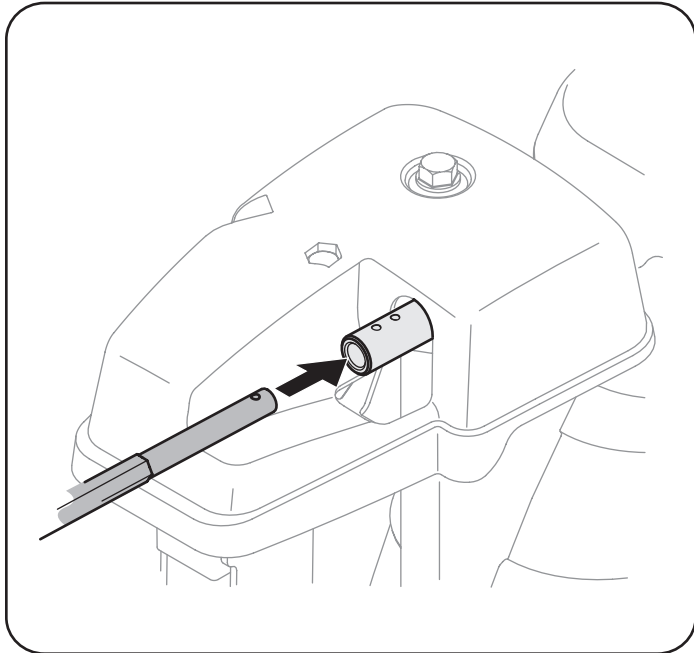

Figure 4
3. Insert chute control rod into input of chute control head. Push rod as far into the chute control head as possible, keeping the holes in the rod pointing upward. See Figure 4.